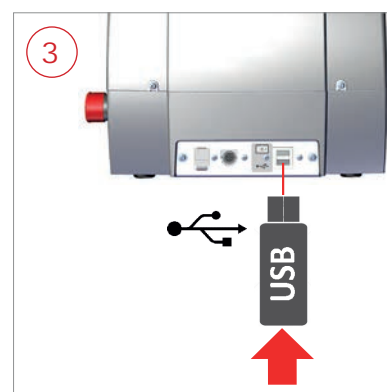

Fig. 14
- 3) Insert the USB PEN DRIVE into the special port on FUTURA EDGE (Fig. 14). Follow the instructions on the screen: tap the “RE-START FUTURA” button to re-start the machine.